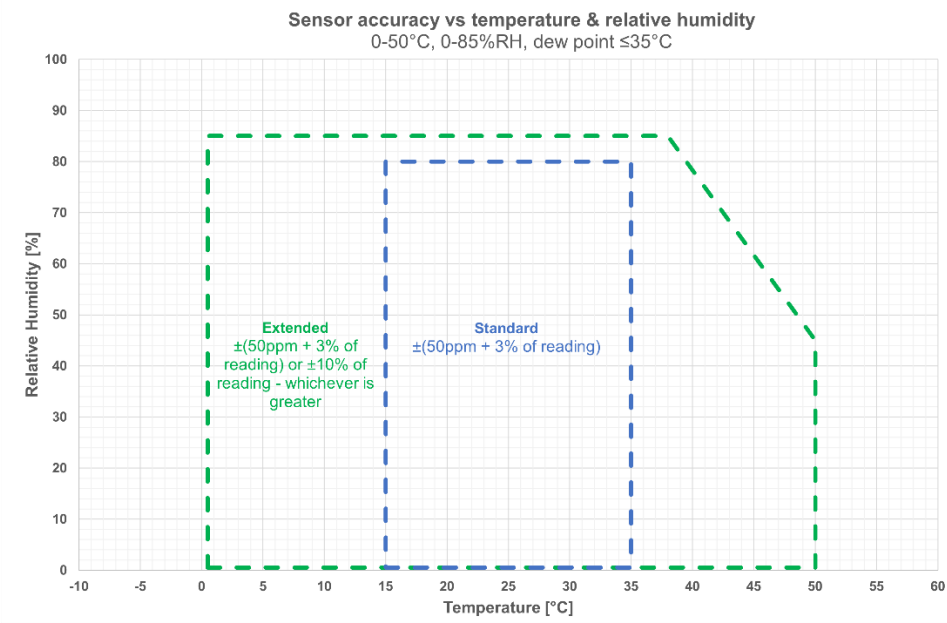

Figure 4. Accuracy over complete operating range (temperature and relative humidity)
- Note 2: ANSI/ASHRAE Addendum ab to ANSI/ASHRAE Standard 62.1-2022 specifies sensor to be accurate within ±75 ppm at concentrations of 600, 1000, and 2500 ppm when measured at sea level at 77 °F (25 °C). See figure 4.
- Note 9: nRDY output pin disabled. See Figure 4 Average current.